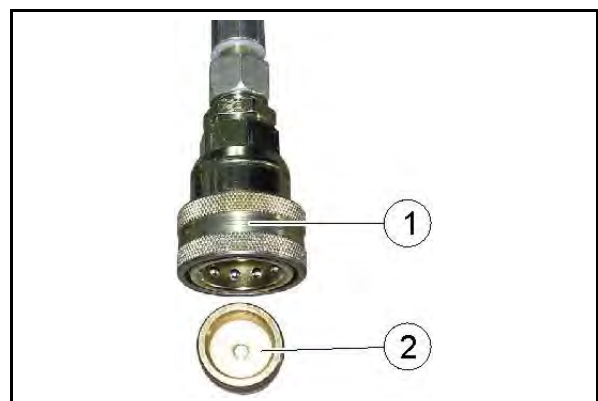

Fig. 52
2. Uncouple the hydraulic sleeve (Fig. 52/1).
3. Slip the hydraulic sleeve onto the machine's blanked-off connecting piece (Fig. 52/2).